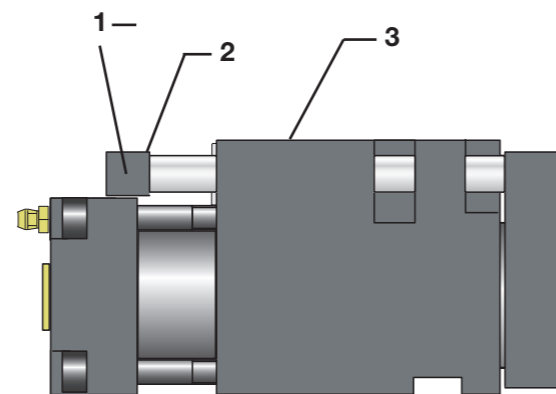

Figure 19:
10.2 Compact cam and flange cam (fig. 19)